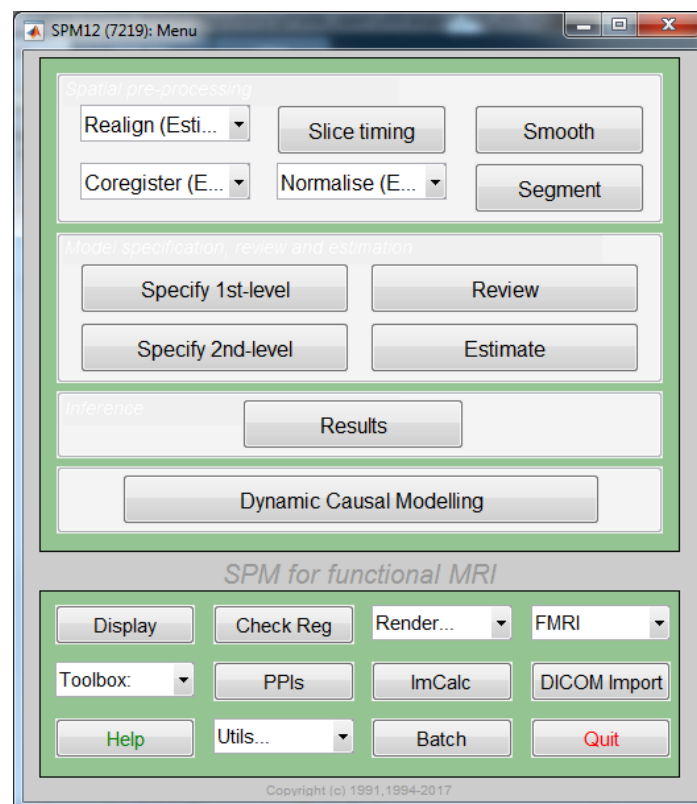

Figure 2: fMRI welcome screen of SPM12
- Choose *Normalize (Est&Wri)* (fig. 2)
- Choose *Segment* (fig. 2); again a batch editor opens. For *Data* choose the co-registered, normalized pre-implantation image (e.g. "wrPatientName.img").
- Choose *Render...* (fig. 2) and *Extract Surface*. Select the *.nii or *.hdr file containing grey matter data after segmentation, “c1...”.